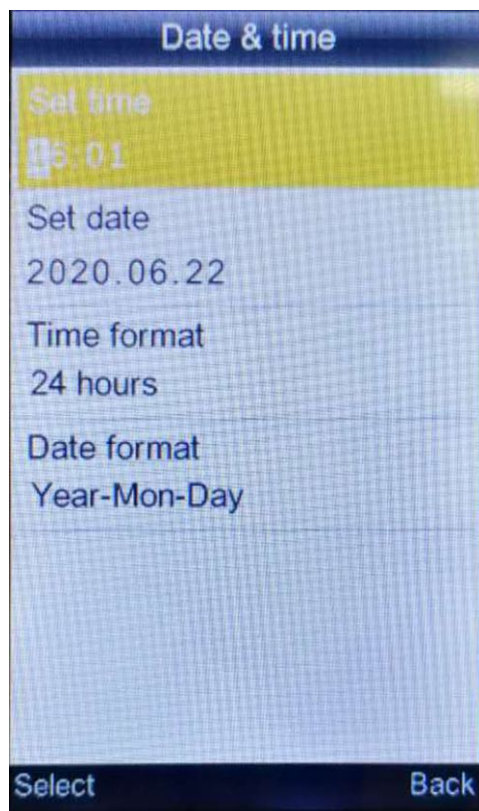

Figure 25 Time & Date Setting
- b) Select “Time & Date” to enter an interface shown in Figure 25. You can make settings by pressing the button “Up” and “Down”. In Figure 26 and Figure 27, you can add or subtract time and date by pressing the button “Up” and “Down”. In Figure 28 and Figure 29, you can set display format of time and date by pressing “Up” and “Down”. Press “Enter” to save the settings and return to the previous menu.